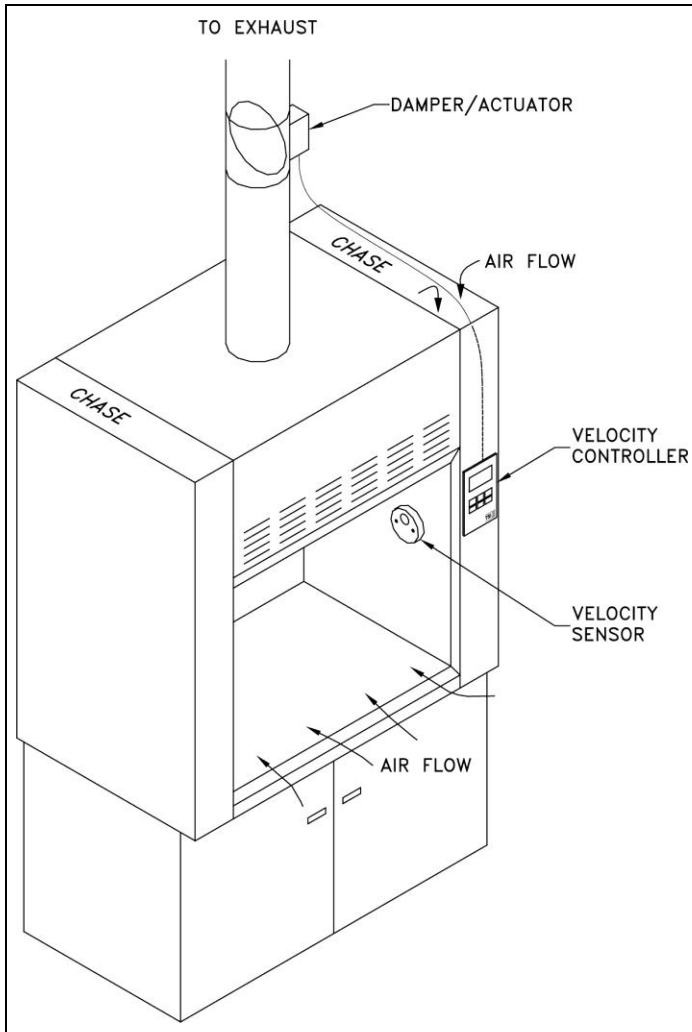

Figure 1: Typical Installation of SUREFLOW™ Components - Damper Version
The purpose of these instructions is to guide the installer through the installation of the TSI Model 8650 SUREFLOW™ Face Velocity Controller. The installation instructions cover all control versions: electric actuator/damper and motor speed versions. Unless specified otherwise, figures and instructions apply to all versions. Please read these instructions thoroughly before beginning installation. The instructions begin with Figure 1, which shows a typical SUREFLOW™ installation, followed by a component list, and then some very important installation notes.
WARNING: The velocity sensor and velocity controller must mount on the same side of the fume hood (Figure 1).
1. Select the mounting location of the VELOCITY CONTROLLER. The controller is typically mounted above the services controls (see Figure 1).